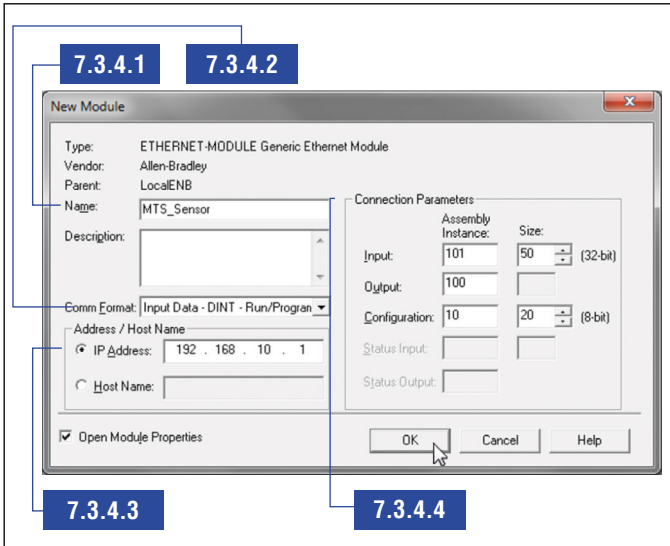

Fig. 86: New Module window
7.3.4 In the “New Module” window (Fig. 86) perform step 7.3.4.1 – 7.3.4.4 to configure the new generic ethernet module to the R-Series V EtherNet/IP™ sensor.